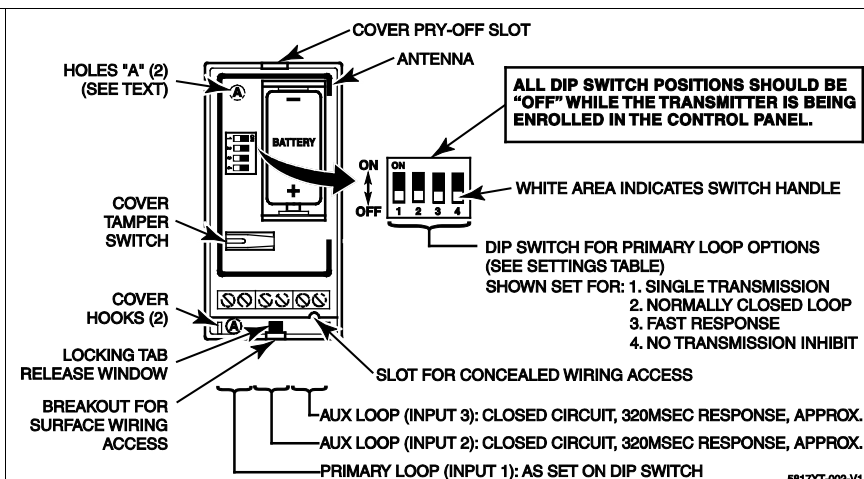

Figure 2: 5817XT, seen with front cover removed.
- Use of the **included mounting plate** is strongly recommended for ease of removal if the transmitter requires servicing. Holes in the transmitter's rear case allow mounting directly to a surface. Holes are labeled "A", located top and bottom left in Figure 2.
- Remove the transmitter's top cover.** Insert a small flat-blade screwdriver into the cover pry-off slot seen in Figure 2. Twist the blade gently until the cover disengages.
- Connect loop wiring to the transmitter's loop terminals, shown in Figure 2.
- Observe correct polarity and insert the battery into the battery holder (see Figure 2).